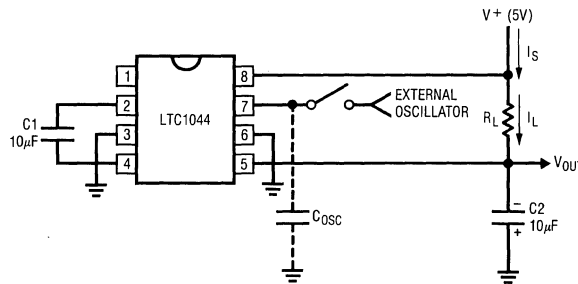

Figure 1
**ELECTRICAL CHARACTERISTICS**  $V^+ = 5V$ ,  $T_A = 25^\circ C$ , Test Circuit Figure 1, unless otherwise specified.
**TYPICAL PERFORMANCE CHARACTERISTICS** (Using Test Circuit Shown in Figure 1)